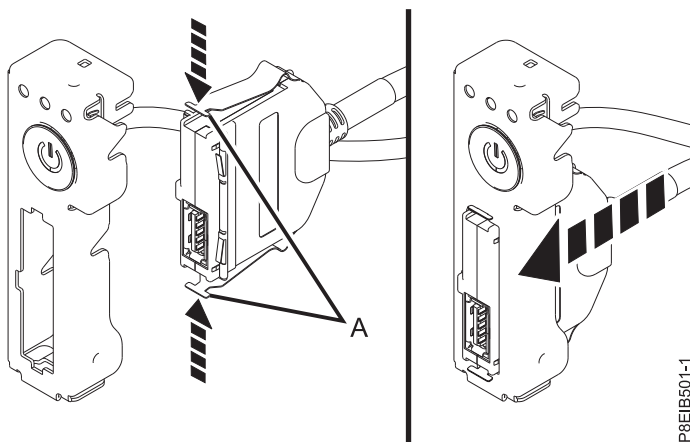

Figure 108. Attaching the front USB cable to the power switch
3. Connect the front USB cable to the power switch. Push in the retaining latches (A) so that the USB port locks into the power switch. See Figure 108.